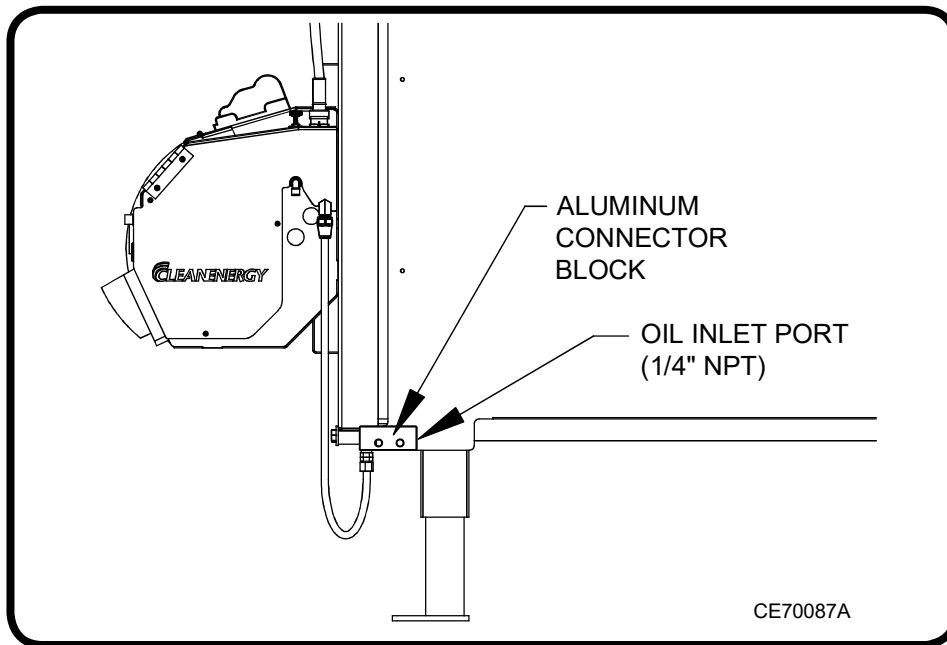

Figure 18: Connecting the Pressure Oil Line to the Connector Block
- (3) Refer to Figure 18.
- (5) Connect the pressure oil line to the aluminum connector block on the side of the boiler.